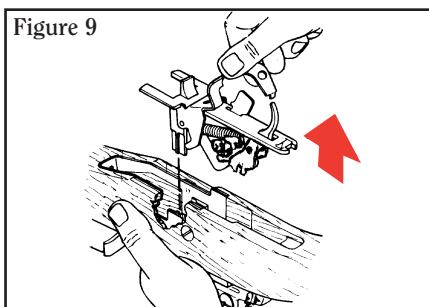

Figure 9
4. Invert rifle and remove trigger housing assembly by carefully pulling it upward (See Fig. 9). Be careful not to damage stock when removing or replacing the trigger housing assembly.